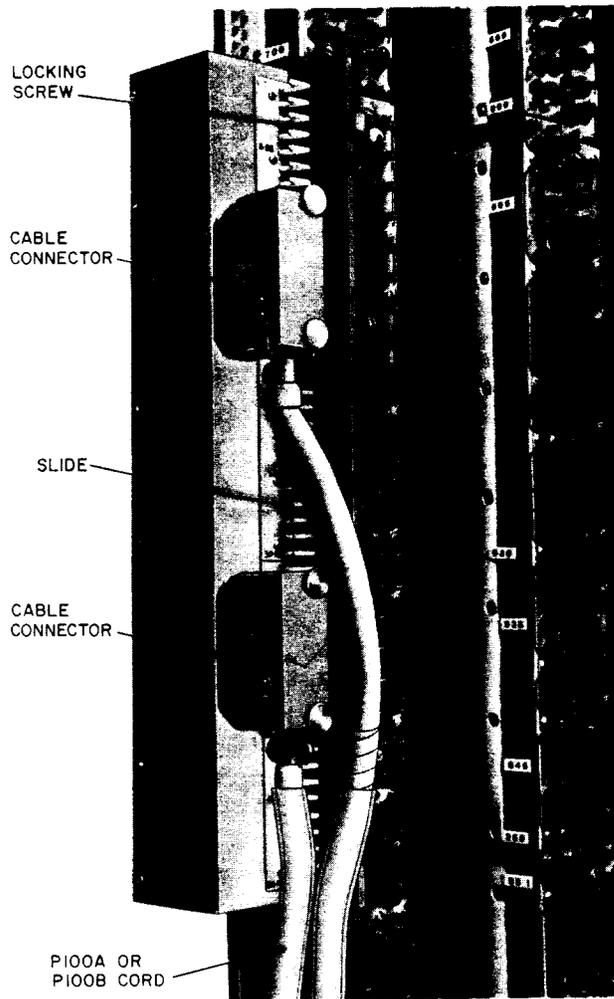

Fig. 1—C Test Connectors on 300-Type Connector
3.01 The front and back views of the C test connector are shown in Fig. 1 and 2. The connector consists of a plastic baseplate containing an assembly of 100 spring-mounted plungers (50 pairs). The plungers are arranged to make positive contact with the cable pair test buttons located on the left side of 300-type connectors.